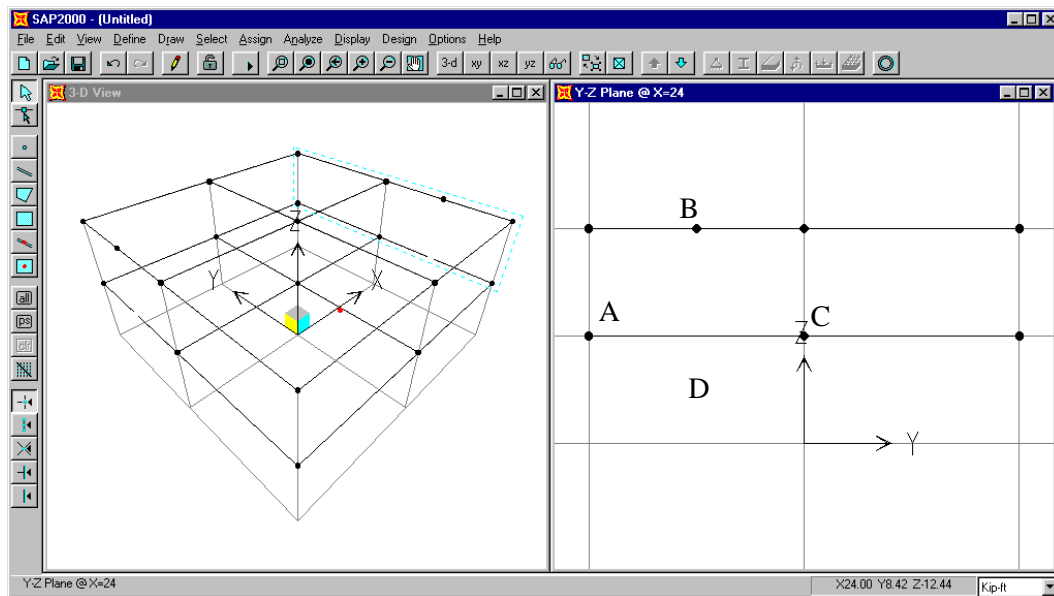

Figure C-13: Y-Z Elevation
This same title also occurs on the left-hand side of the status bar at the bottom of the SAP2000 window. The model appears as shown in Figure C-13.
32. Make sure that the **Snap to Joints and Grid Points** button  on the side tool bar is depressed. Place the mouse pointer on the joint labeled “A” in Figure C-13 and click on the left mouse button. Note that when the mouse pointer is near the joint, it snaps to the joint, and a text box that says “Grid Intersection” appears. This is the effect of the Snap to Joints and Grid Points feature.
33. Place the mouse pointer near the joint labeled “B” in Figure C-13 and note that in this case the Snap To option text box just says “Point” because the joint does not occur at a grid intersection. Click on the left mouse button to draw the chevron brace element.
35. Click on the joint labeled "C" and then the joint labeled "B" in Figure C-13, and then press the Enter key on the keyboard to draw the second chevron brace member.
36. Click the **Quick Draw Frame Element** button  on the side toolbar. Then click in the area labeled "D" in Figure C-13 to enter the X-braces.